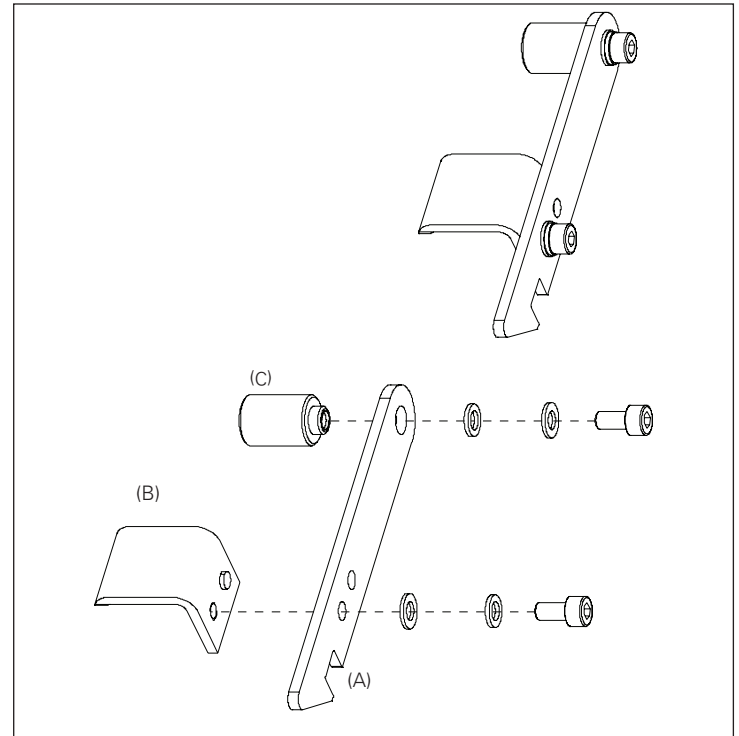

Figure 2. Interlock Lever Assembly
Step 1: Align the interlock cam (B) to the lever (A) as shown in **Figure 2** and install the screw and washers.
Step 2: Next, insert the shouldered standoff (C) into the lever pivot hole and install the screw and washers. Torque both screws to 35 in-lbs (4 N-m).